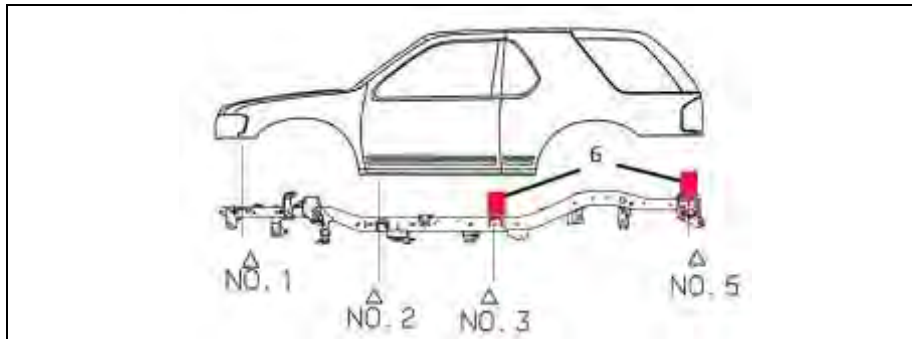

Figure 44
6. Remove body mount mounting nuts for body mounts #1, #2, #3 and #5. See Figure 44.